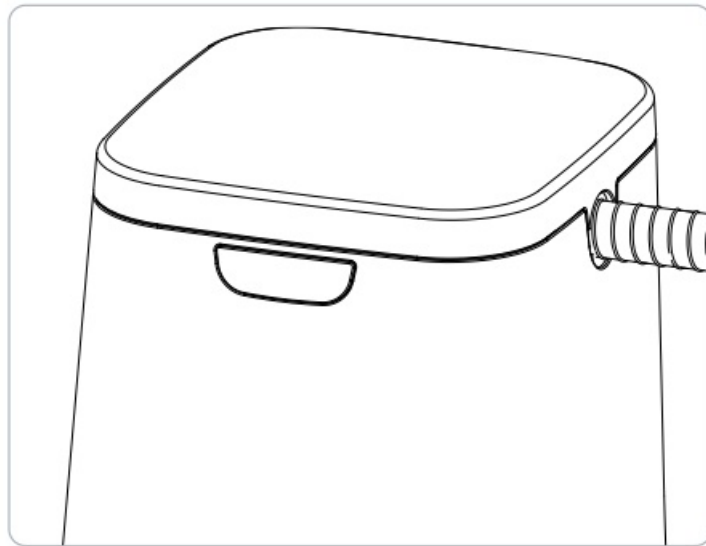

Figure 8. Closed lid with PAP mask inside
5. Close the lid with the PAP hose placed in the open slot (Figure 8). The SoClean will now automatically operate according to its preset time and duration.
7. Close the lid with the PAP hose placed in the open slot (Figure 8). The SoClean will now automatically operate according to its preset time and duration.